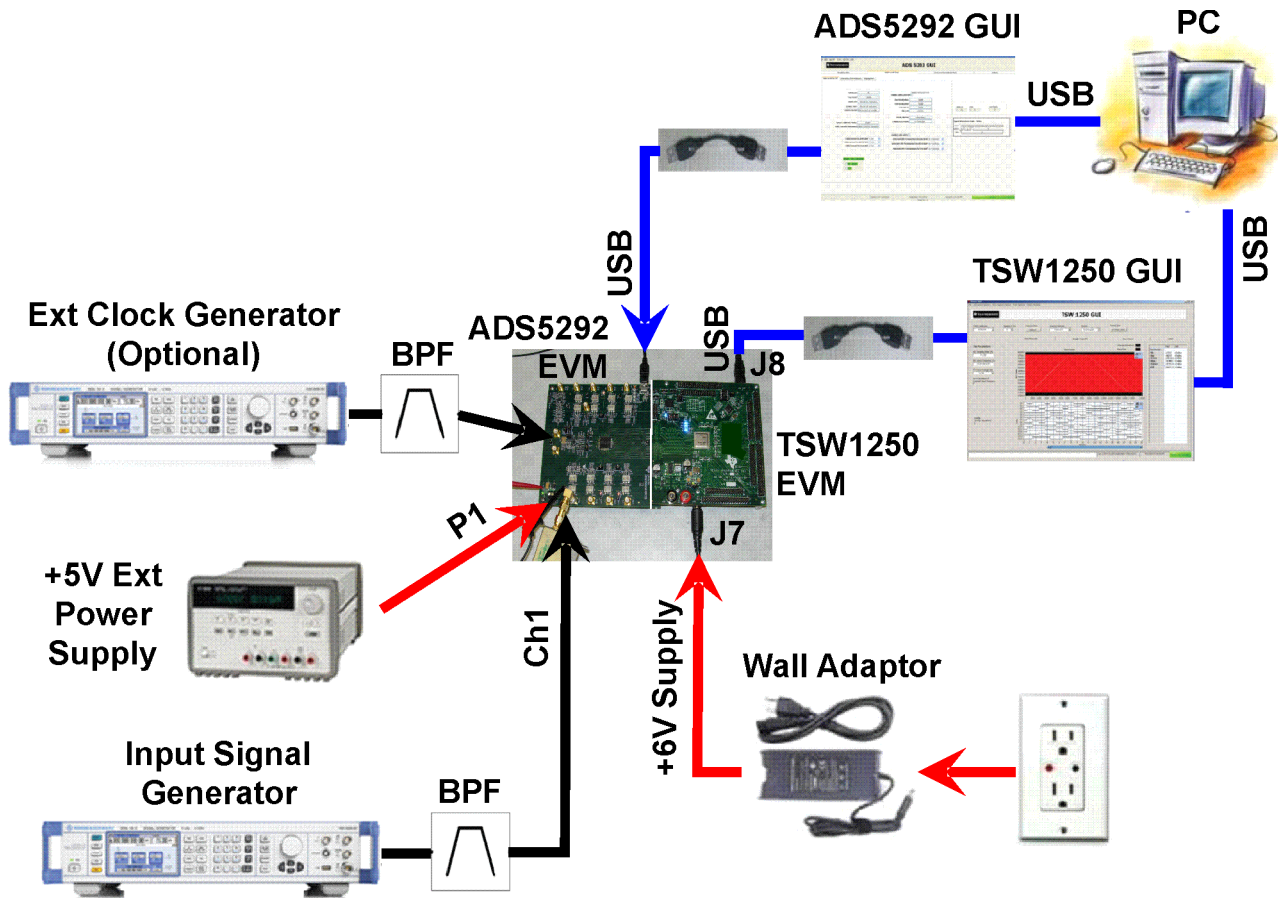

Figure 1. Evaluation Setup
Figure 1 shows an overview of the evaluation setup that includes the ADS5292EVM evaluation module (EVM), TSW1250EVM, external equipment, personal computer (PC), and software requirements.